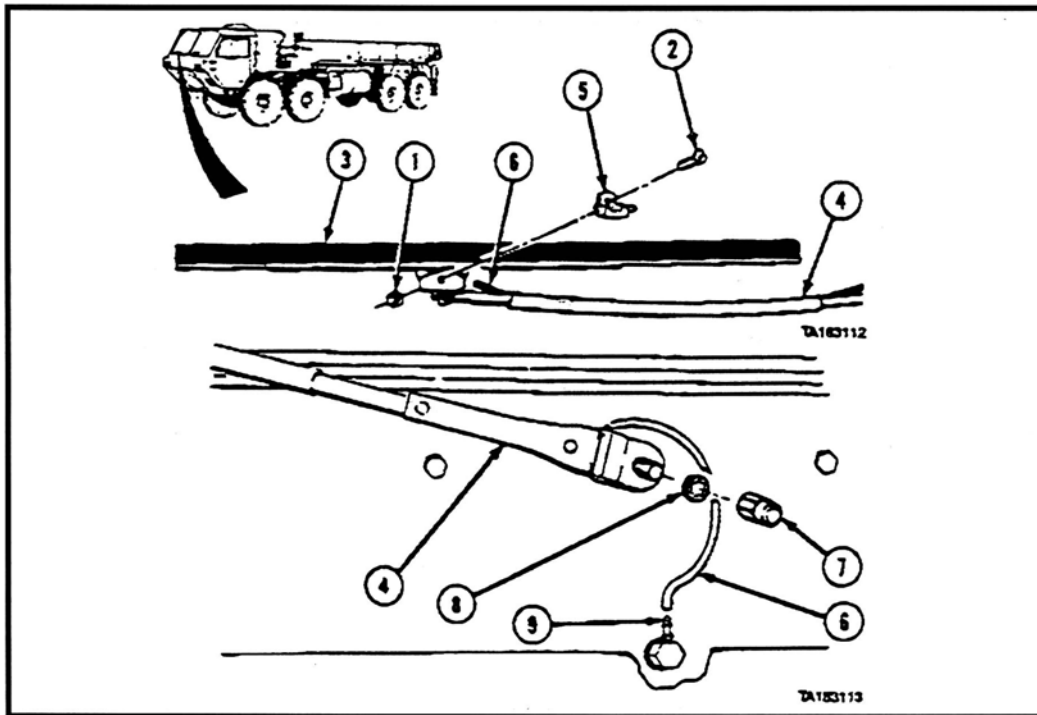

Figure 11. Remove the windshield wiper.
1. Remove the nut (Item 7 in Figure 11) and lock washer (8) from the driver's-side windshield wiper drive shaft.